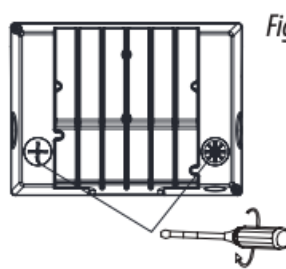

Figure 6
- After adjusting the required control function (figure 5), tighten the metal plug and the plastic plug clockwise. (Figure 6)